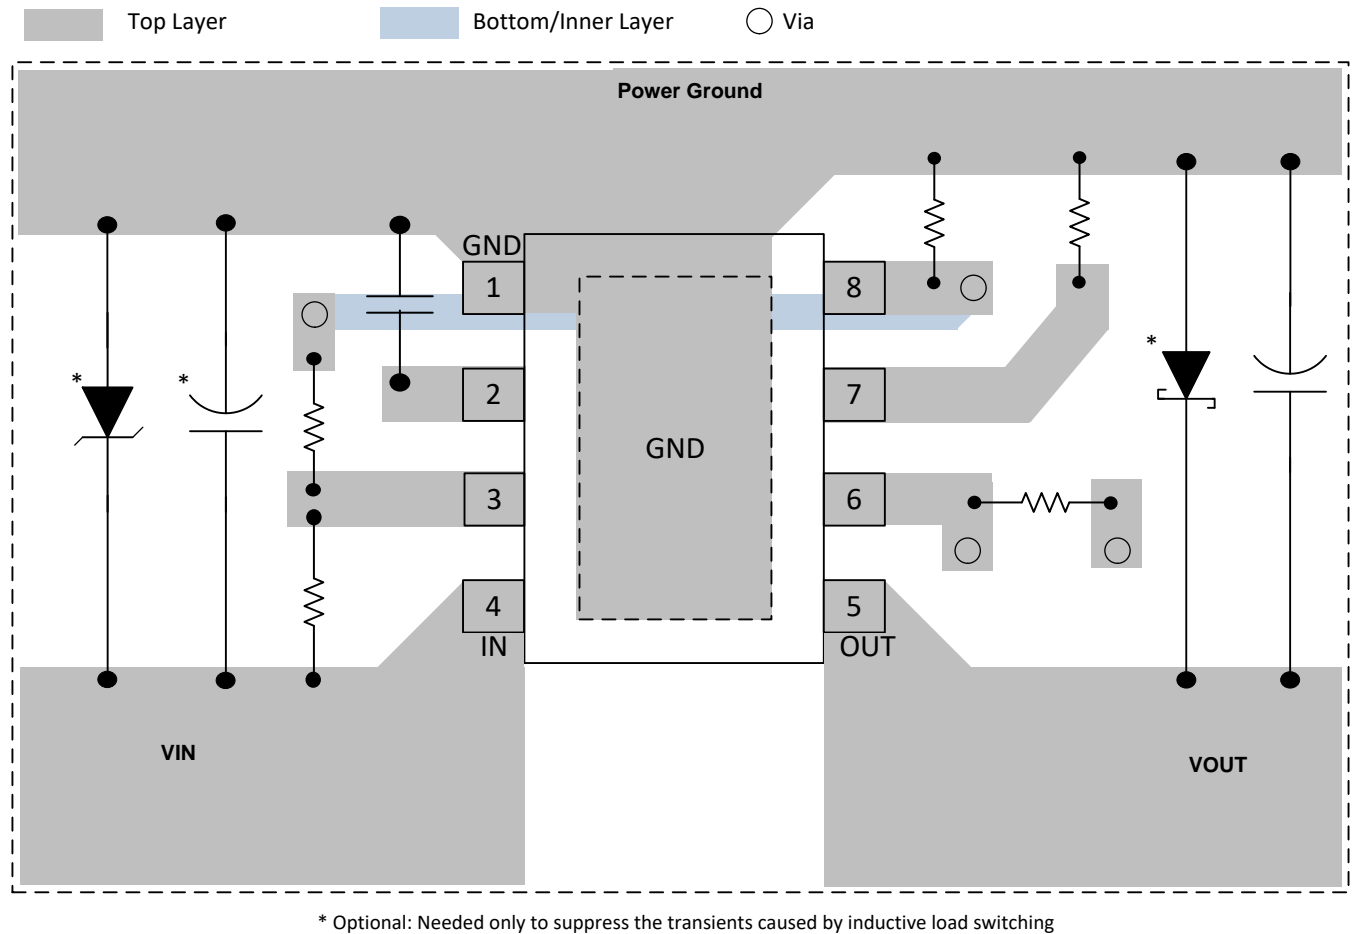

Figure 39. TPS2596xx Layout Example
- The optimal placement of the decoupling capacitor is closest to the IN and GND terminals of the device. Care must be taken to minimize the loop area formed by the bypass-capacitor connection, the IN terminal, and the GND terminal of the IC. See Figure 39 for a PCB layout example.